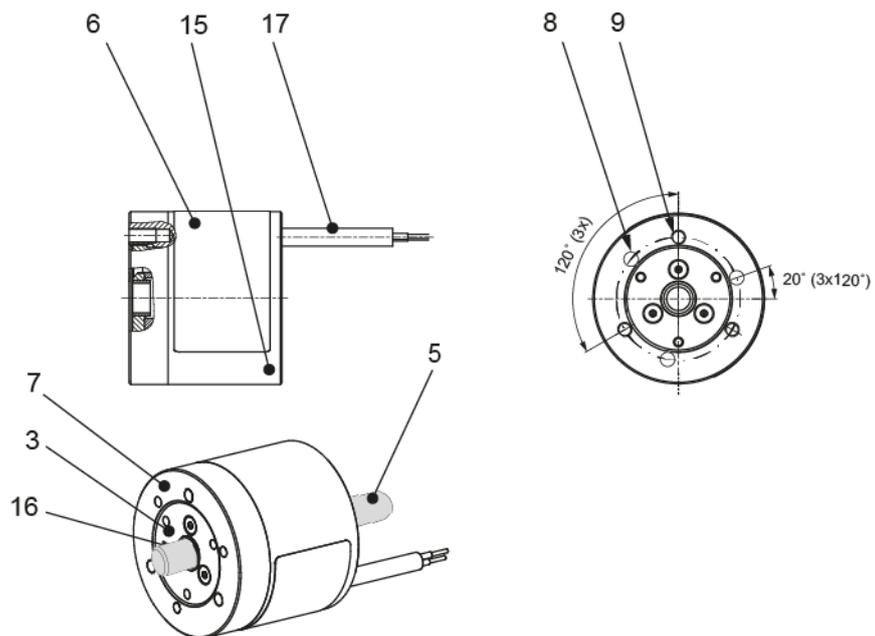

Fig. 2 (Size 10, 15)
- ❑ The brake clamping element (Cone armature item 19) is pulled against the spring through application of the voltage. The piston rod can be moved (Illustration 1).
- ❑ The spring has an effect on the clamping element (Cone armature item 19) of the brake through switch-off the voltage. The piston rod is clamped (Fig. 2).